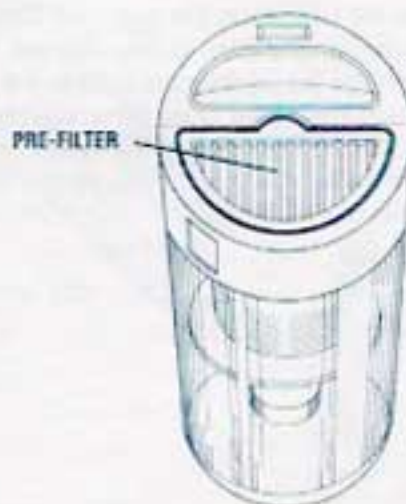

Figure 15b
8. Remove the Pre-Filter (Figure 15b) and clean out any fluff or debris inside. (See Section G)